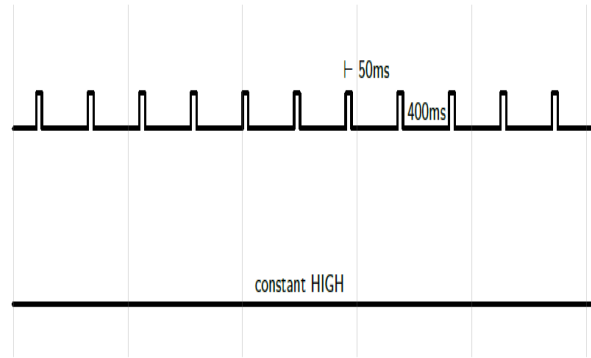

Figure 2.16 Low battery indicator timing
- Pulse patterns are shown in the Figure 2.16 Low battery indicator timing.